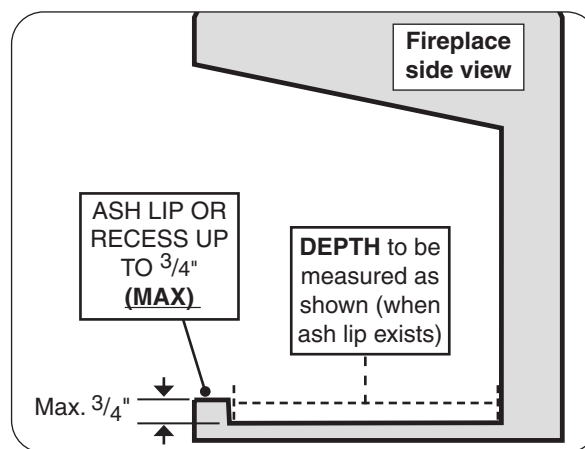

Fig. 8-1 Ash lip/recess detail
* These required widths allow for centering of the unit. † Rear width is at corresponding depth. ‡ If an ash lip exists, the depth requirement begins inside of the lip (see Fig. 8-1 below).
DO NOT install this burner system in a fireplace with an ash lip or recess greater than $\frac{3}{4}$ ". See Fig. 8-1.